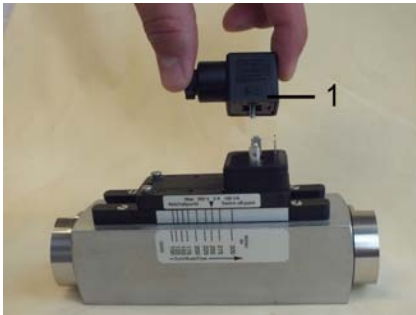

Fig. 59: Remove female socket
2. ➤ Remove the female socket and gasket (Fig. 59/1) by pulling upwards.